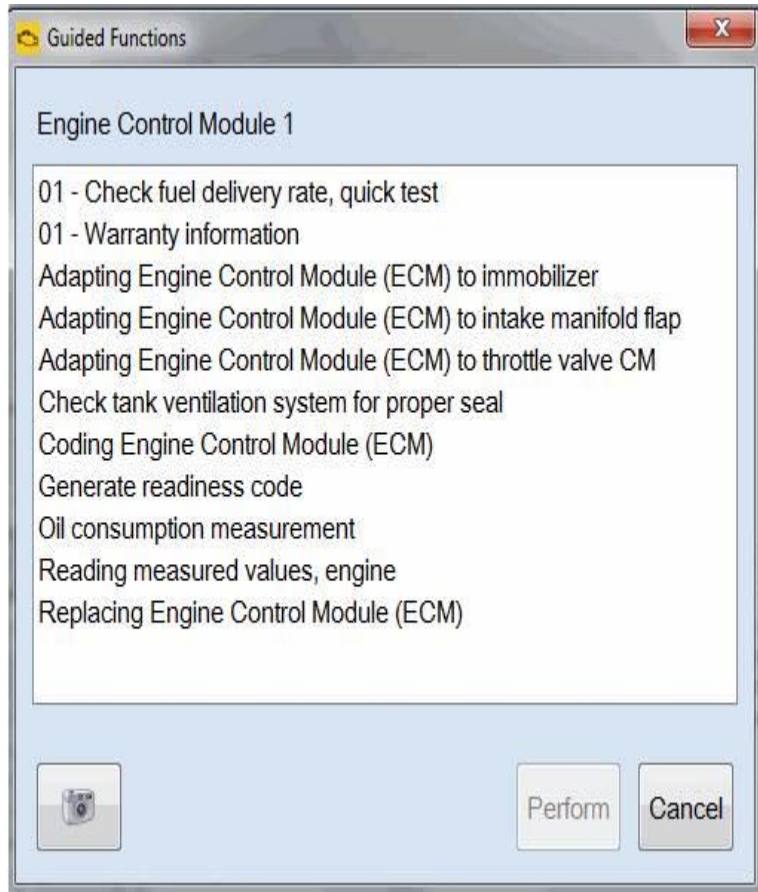

Figure 5
- Select Adapting Engine Control Module (ECM) to intake manifold flap (Figure 5).